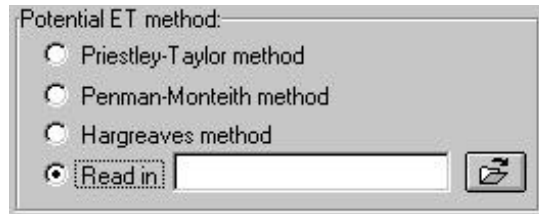

Figure 13.6
- d. Potential ET method. In this section, the user selects the method used to estimate potential evapotranspiration (PET). The available options are **Priestley-Taylor**, **Penman-Monteith**, **Hargreaves**, and **Read in**. When **Read in** is selected, the user must provide a file, either in dBASE or txt format, containing the daily value of PET (Figure 13.6). The format of the PET file is given in Section 3.